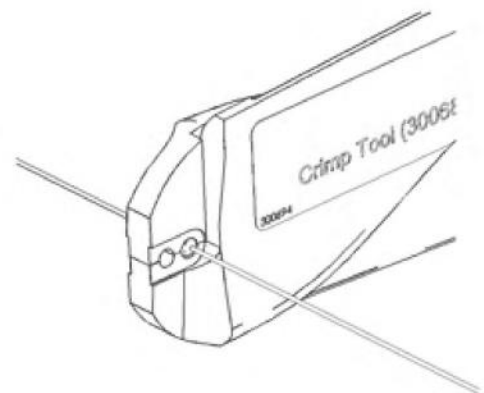

Figure 8
1. Grip and center the ball-end plug lengthwise in the crimp tool using the bottom hole (hole closest to the crimp tool handles; see Figure 8).